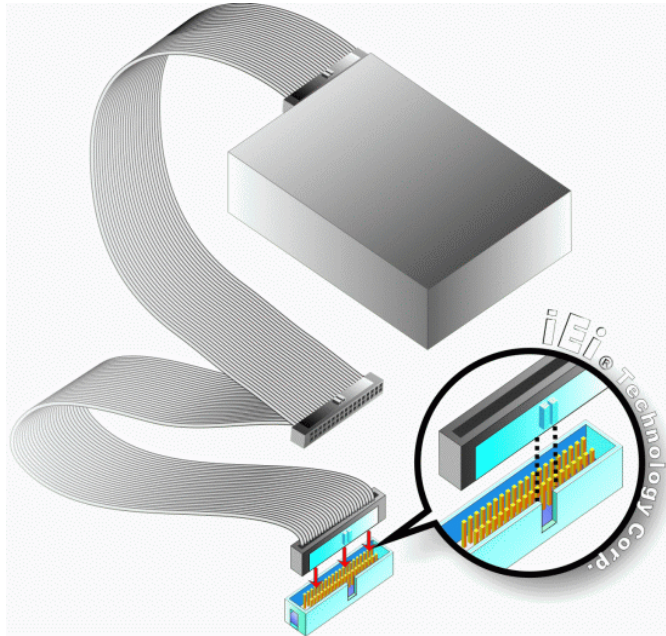

Figure 5-7: IDE Cable Connection
Step 5: Insert the connector. Connect the IDE cable connector to the onboard connector. See **Figure 5-7**. A key on the front of the cable connector ensures it can only be inserted in one direction.